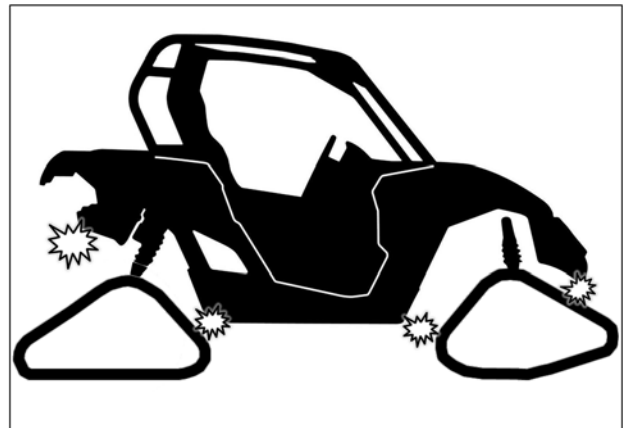

Fig. 38
2. Verify for possible contact between Track System and lower fender corners. See Fig. 38